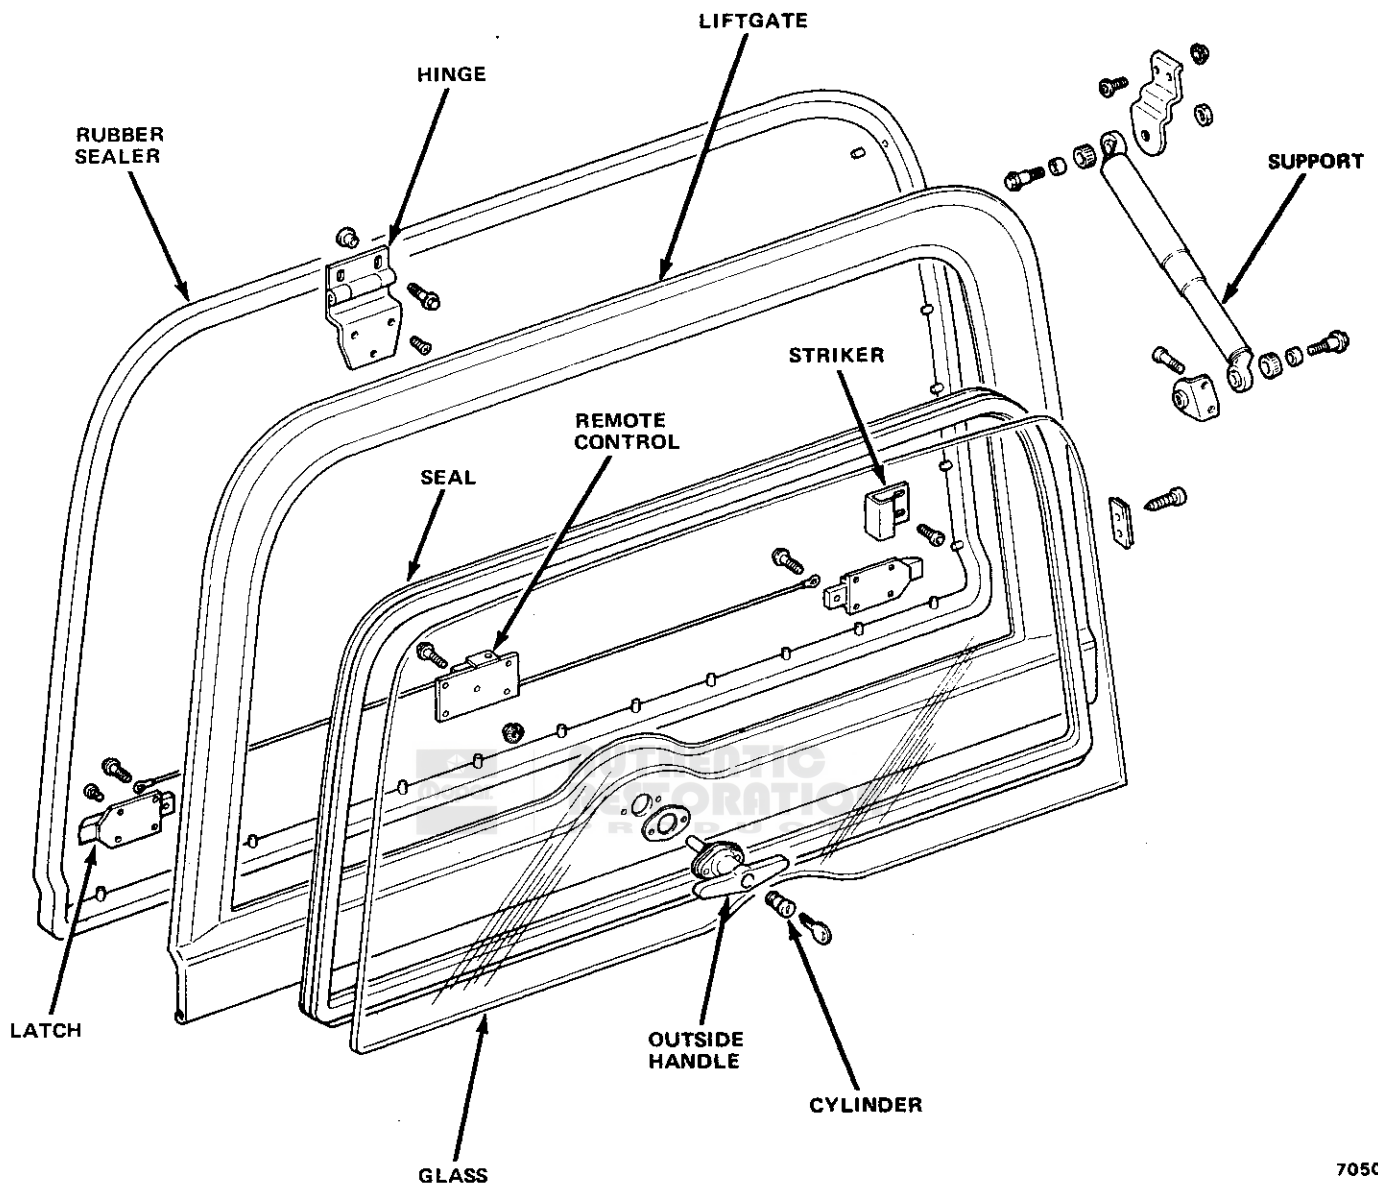

Fig. 3H-1 Liftgate Components
- (1) Unlock rubber weatherstrip (fig. 3H-1) using wood wand or fiber stick.
- (2) Use fiber stick to break seal between glass and rubber weatherstrip.
- (3) Push glass and weather strip toward outside of vehicle. Remove glass.
- (4) Remove weatherstrip from liftgate opening.
- (5) Inspect weatherstrip and clean sealer from glass cavity and flange cavity.
(1) Loosen screws attaching remote control cables to latch. Disconnect cables from screws.
(2) Remove screws attaching remote control (fig. 3H-1) to liftgate using Torx Bit Tool J-25359-02.
(3) Position remote control on liftgate and install attaching screws using Torx Bit Tool J-25359-02.
(4) Connect remote control cables to latch screws and tighten screws.
(1) Loosen screw attaching remote control cable to latch. Disconnect cable from screw.
(2) Remove screws attaching latch (fig. 3H-1) to liftgate using Torx Bit Tool J-25359-02. Remove latch.
(3) Position latch on liftgate and install attaching screws using Torx Bit Tool J-25359-02.
(4) Connect remote control cable to latch screw and tighten screw.